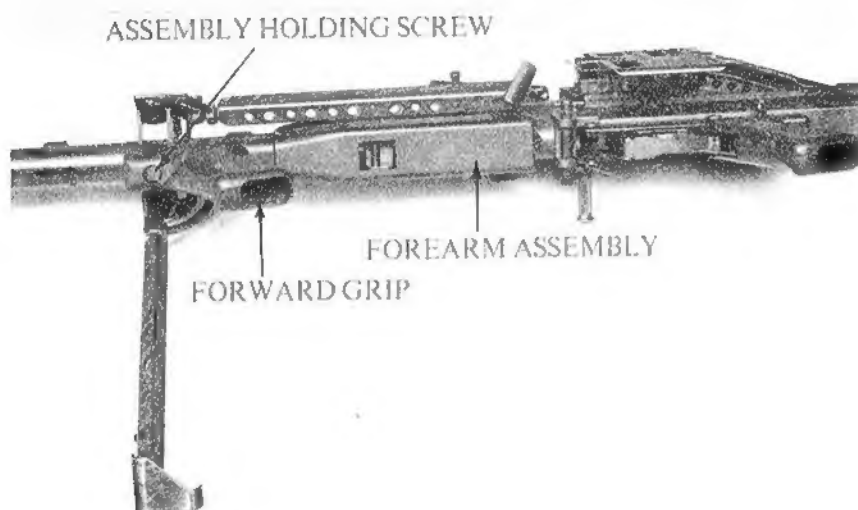

Figure 1-2. — Removing the Forward Grip Assembly.
**1202. DISASSEMBLY SCREW.** Removing the forward grip assembly of the M60E3 is part of detailed disassembly of the weapon. A screwdriver is used to remove the assembly holding screw, which is located forward of the grip (Figure 1-2). Once the forward grip is removed, the forearm assembly is removed from the receiver.